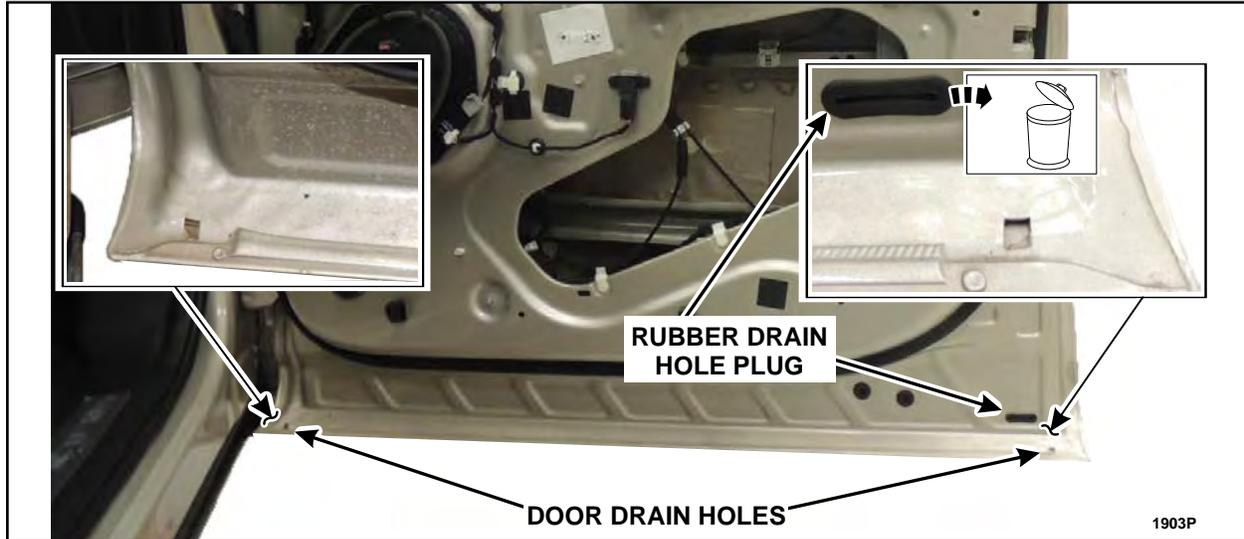

FIGURE 15
3. If water shield kit installation was not necessary, remove and discard the rubber drain plug and clean any obstructions, debris, foreign material and residual water from all of the door drain holes using compressed air and a *tool such as a plastic trim tool or a zip tie*. See Figure 15.